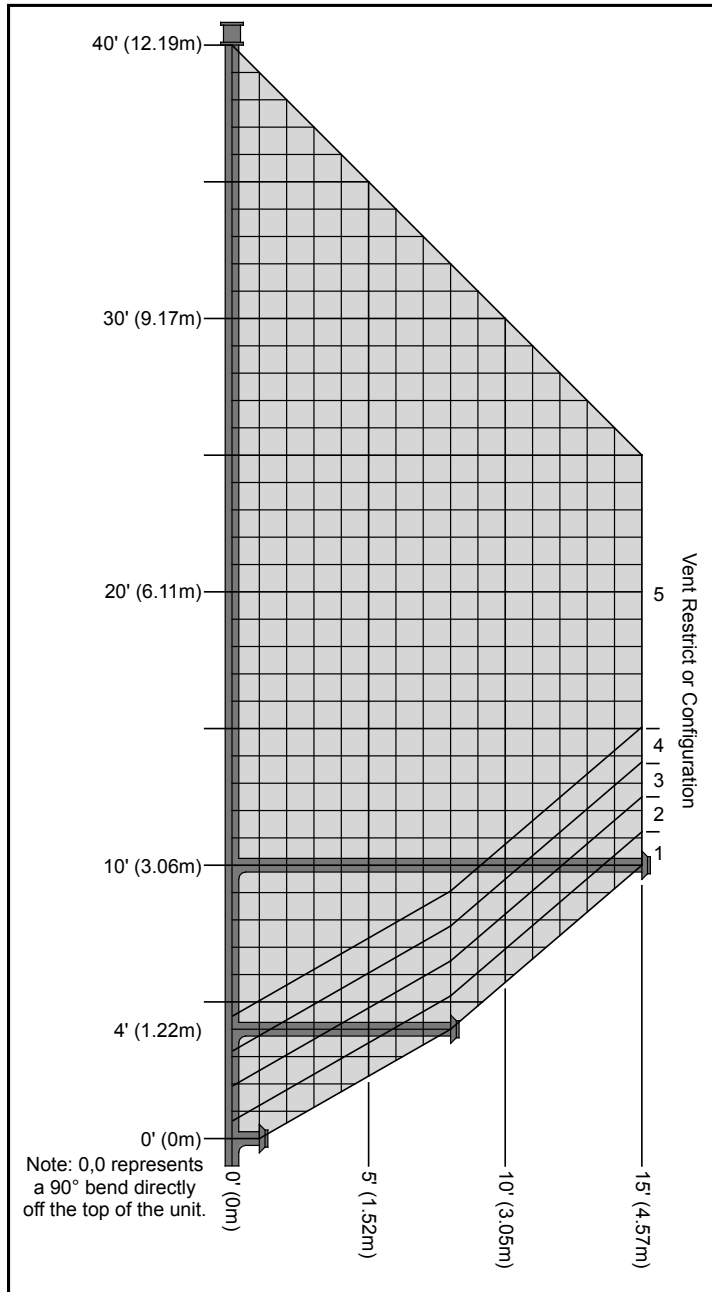
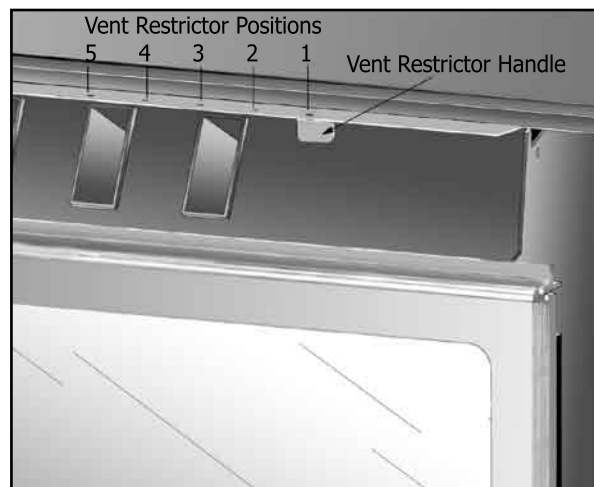

Figure 20. Possible Vent Configurations
Figure 21. Possible Vent Restrictor Positions
Figure 20 shows the range of venting options, it shows possible vent configurations if the unit is top vented, for vertical and horizontal terminations, any layout that remains within the shaded area is acceptable. Having the fewest number of elbows is ideal, as they tend to disrupt air movement. Using 45° elbows is preferable to using 90° elbows. Also, a shorter vent system will perform better than a longer one.
The vent restrictor controls the amount of air moving through the vent pipe. Longer vertical vent lengths necessitate greater restriction; position 1 is open and position 5 is maximum restriction. Figure 20 shows the vent restrictor settings required, relative to the length of vent pipe. The vent restrictor is located on the right side of the fireplace, above the glass. Figure 21 shows the vent restrictor handle and the holes that indicate the different levels. To avoid injury, it is best to make this adjustment when the fireplace is cool or use welder's gloves or oven mitts.
**Note:** 0,0 in Figure 20 represents a 90° bend directly off the outlet of the unit, 46" (1169 mm) from floor. This is for all horizontal instances **except** when using Selkirk and having less than a 4 feet (1.22 m) rise and 8 feet (2.44 m) horizontal offset. In this case, a 1 foot rise must be added below the 90° bend.